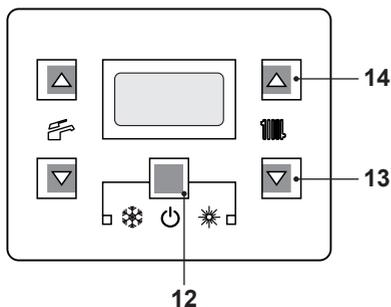
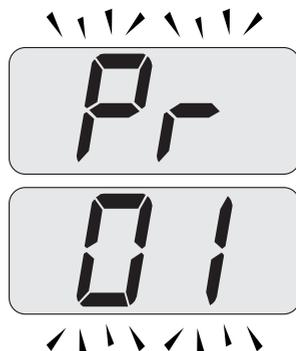
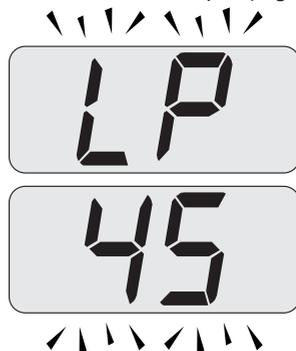
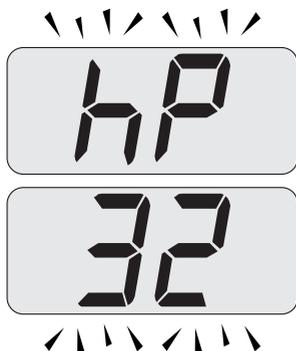

Fig. 10.17
Fig. 10.18
Fig. 10.19
Fig. 10.20
- Enter in "programming mode" by sequentially pressing and holding in keys, 12 - 13 and then 14 (Fig. 10.17) for 10 seconds until the letters **Pr** that alternate with code **01** are displayed on the LCD display, indicating that "parameter 01" (Fig. 10.18) has been activated.
- Press keys 13 and 14 (Fig. 10.17) at the same time until the LCD display displays the letters **LP** that alternate with the heating water temperature value (e.g. **45**), indicating the activation of the "flue sweep function" at minimum output (Fig. 10.19).
- By pressing 14 (Fig. 10.17) it is possible to change power in flue sweep mode: with the letters **hP** on the LCD display which alternate between the heated water temperature (i.e. **32**), we are in the "flue sweep function" at the minimum power during heating (Fig. 10.20).
- Press sequentially keys, 12 - 13 and then 14 (Fig. 10.17) and hold in for 10 seconds to exit the "flue sweep mode" and return to the previously set boiler status (Fig. 10.22).